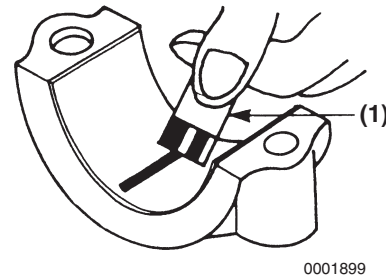

Figure 6-106
- (e) Compare the width of the flattened PLASTIGAGE to the graduation marks on the package (**Figure 6-106, (1)**). The mark that most closely matches the width of the flattened PLASTIGAGE will indicate the bearing oil clearance.